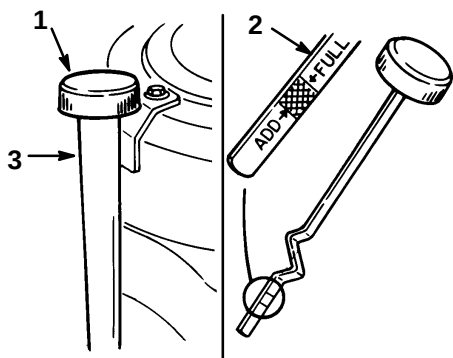

Figure 21
2. Clean around the oil dipstick (Fig. 21) so dirt cannot fall into the filler hole and damage the engine.
3. Unscrew the oil dipstick and wipe the metal end clean (Fig. 21).
4. Thread the oil dipstick fully onto the filler tube (Fig. 21). Pull the dipstick out and look at the metal end. If oil level is low, slowly pour only enough oil into the filler tube to raise the level to the "FULL" mark.
5. Slowly pour approximately 80% of the specified amount of oil specified, page 24, into the filler tube (Fig. 21). Now check the oil level; refer to Checking Oil Level, page 25. Slowly add additional oil to bring to "FULL" mark on dipstick.